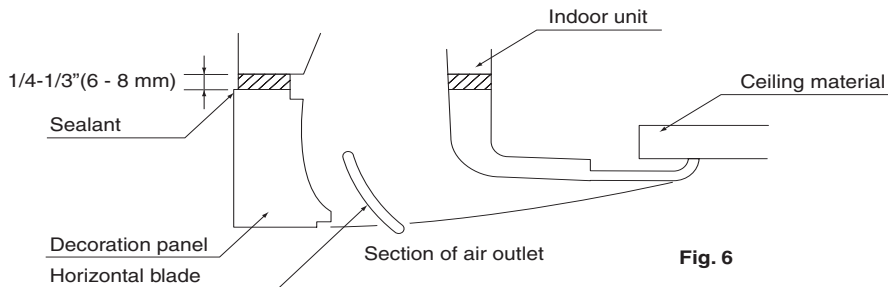

Fig. 6
5. Attach the remaining 2 screws, and tighten all 4 screws until the sealant between the decoration panel and indoor unit is compressed to between 1/4-1/3" (6-8 mm) thick. **(Refer to Fig. 6)**
- (5) Adhere the moisture absorber for attached point (8) with the attached point to indoor unit between the air outlet (2) and (3). And, adhere the moisture absorbers for fresh air intake (9) with the fresh air intake hole. See (Fig.6).